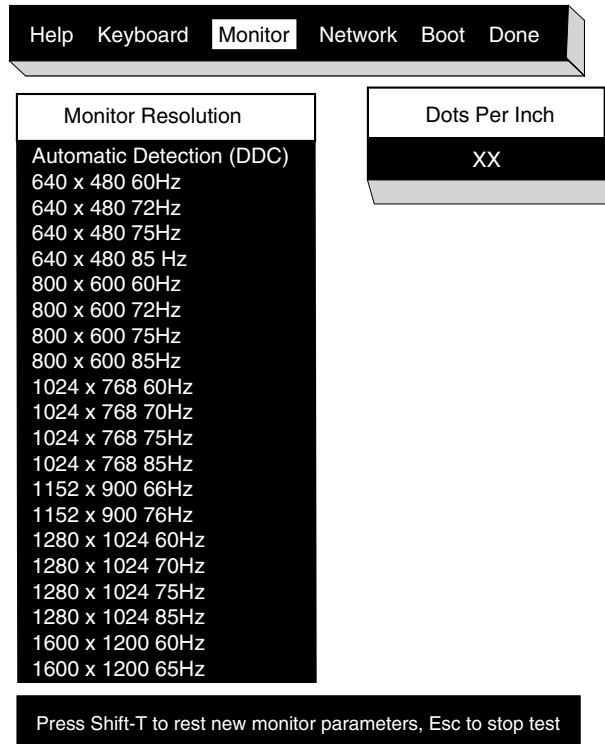

Figure 4-2 Supported Resolutions for Explora 700
4. Use the right arrow key to select `Monitor`. The screen now displays the available monitor resolution settings. (See Figure 4-2.)